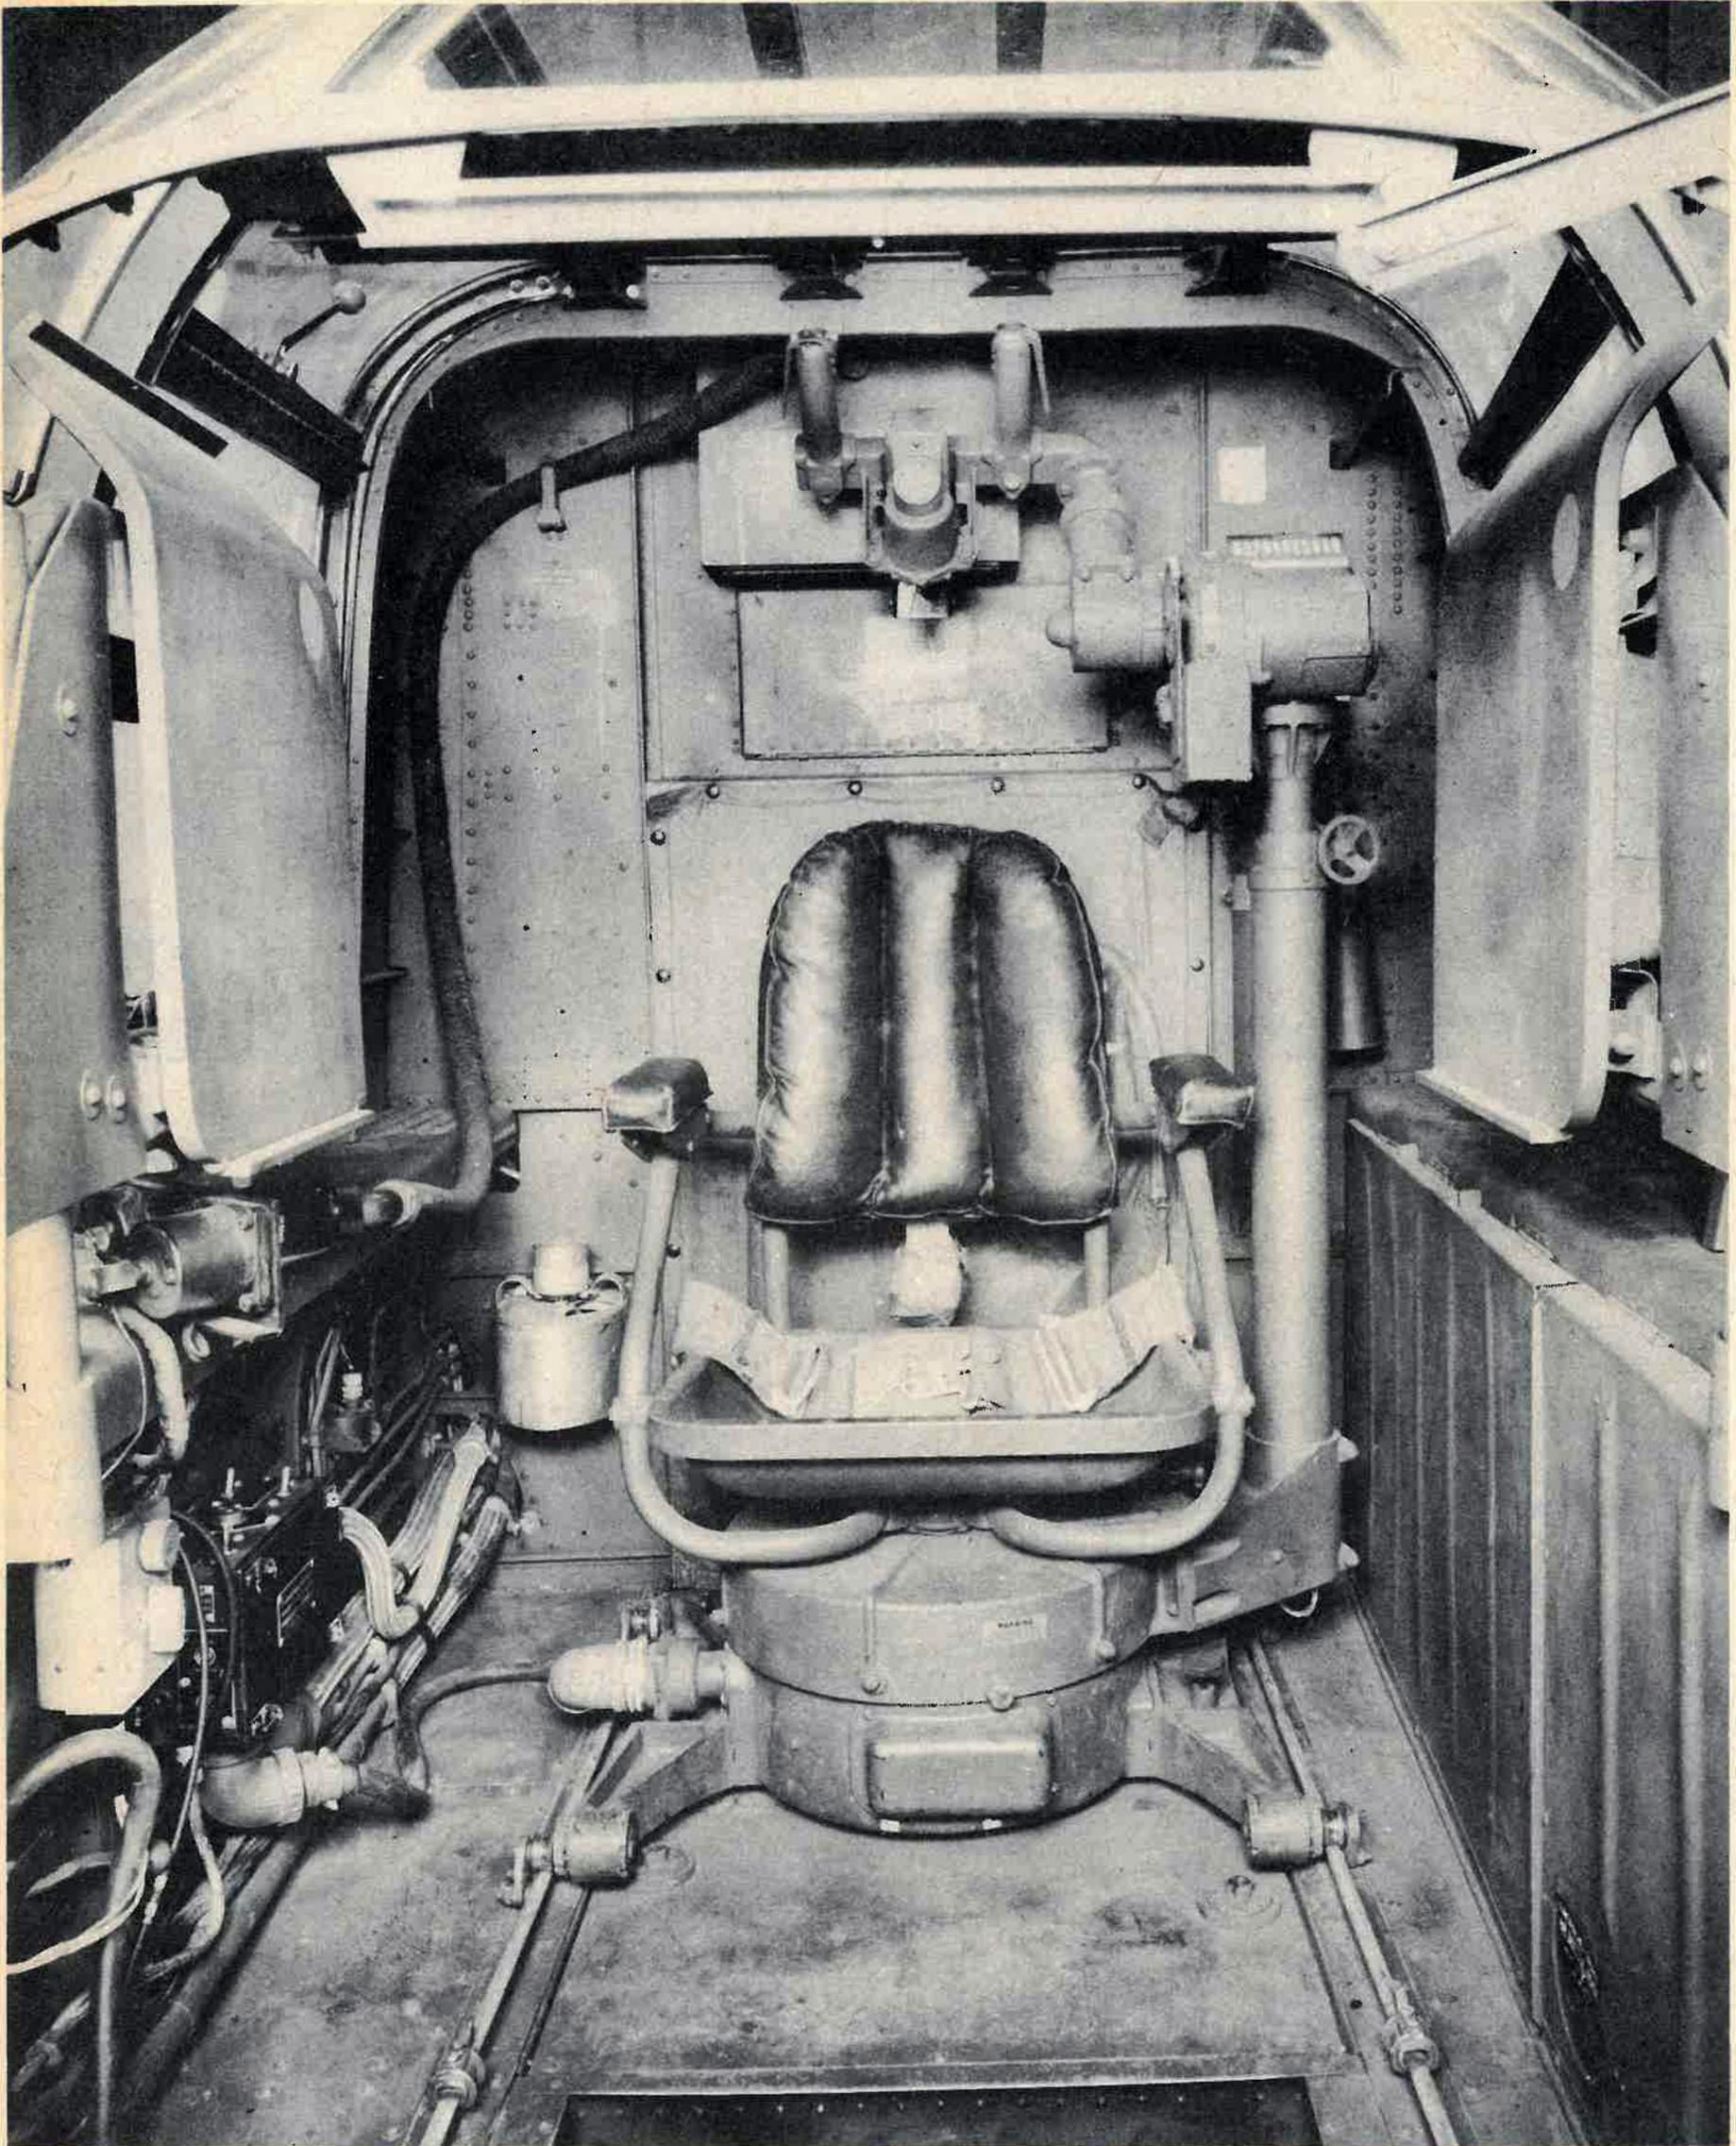

Figure 26 – Gunner's Controls
c. **GUNNER'S OPERATIONAL EQUIPMENT.**—(Fig. 26.)
(3) Gunner's oxygen, communications, and armament equipment discussed in paragraphs 3, 4, and 5 of this section.